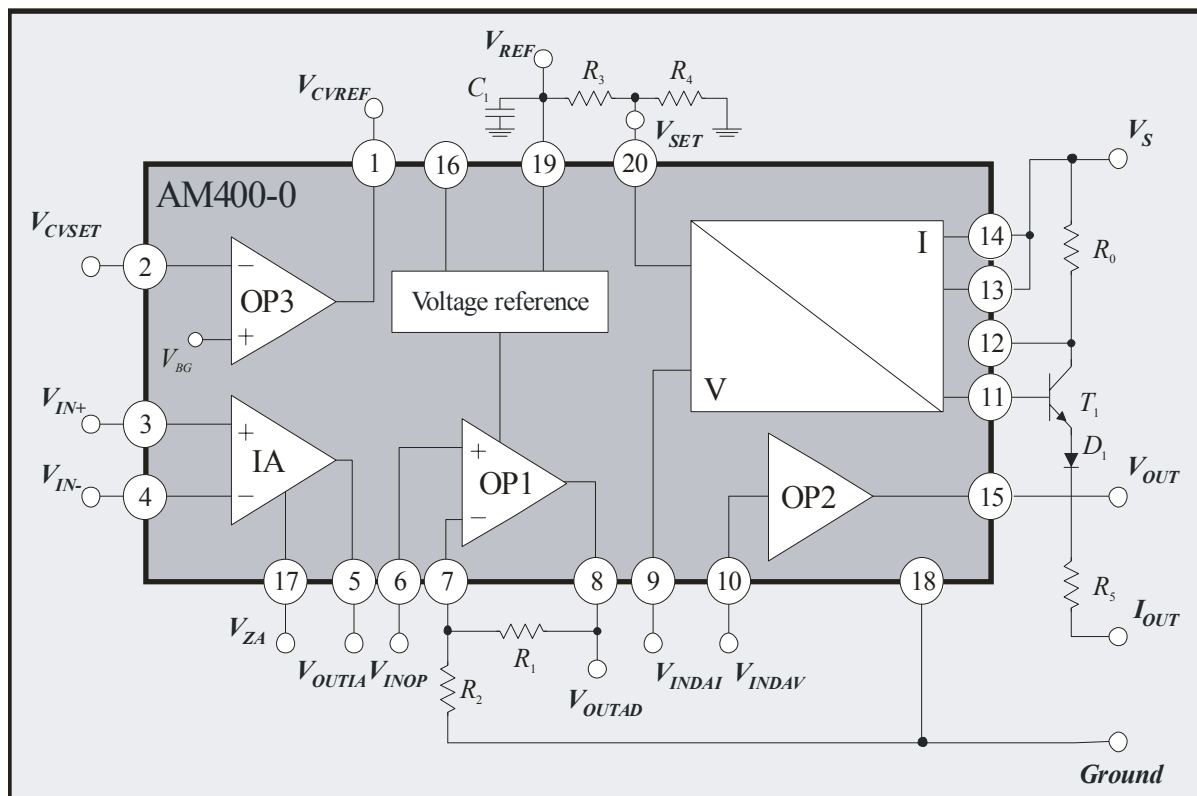

Figure 2: Block diagram of AM400 showing external components (3-wire circuit with a current output)
AM400 consists of a number of modular functional blocks which through external gating can either operate together or separately (see Figure 2).
1. When operating AM400 it is imperative that external capacitance C_1 (a high-grade ceramic capacitor) is **always** connected (cf. Figure 2). Care must be taken that the value of the capacitance does not lie beyond its given range, even across the range of temperature (see Boundary Conditions on page 7). In 2-wire operation ceramic capacitor C_2 must also be used.